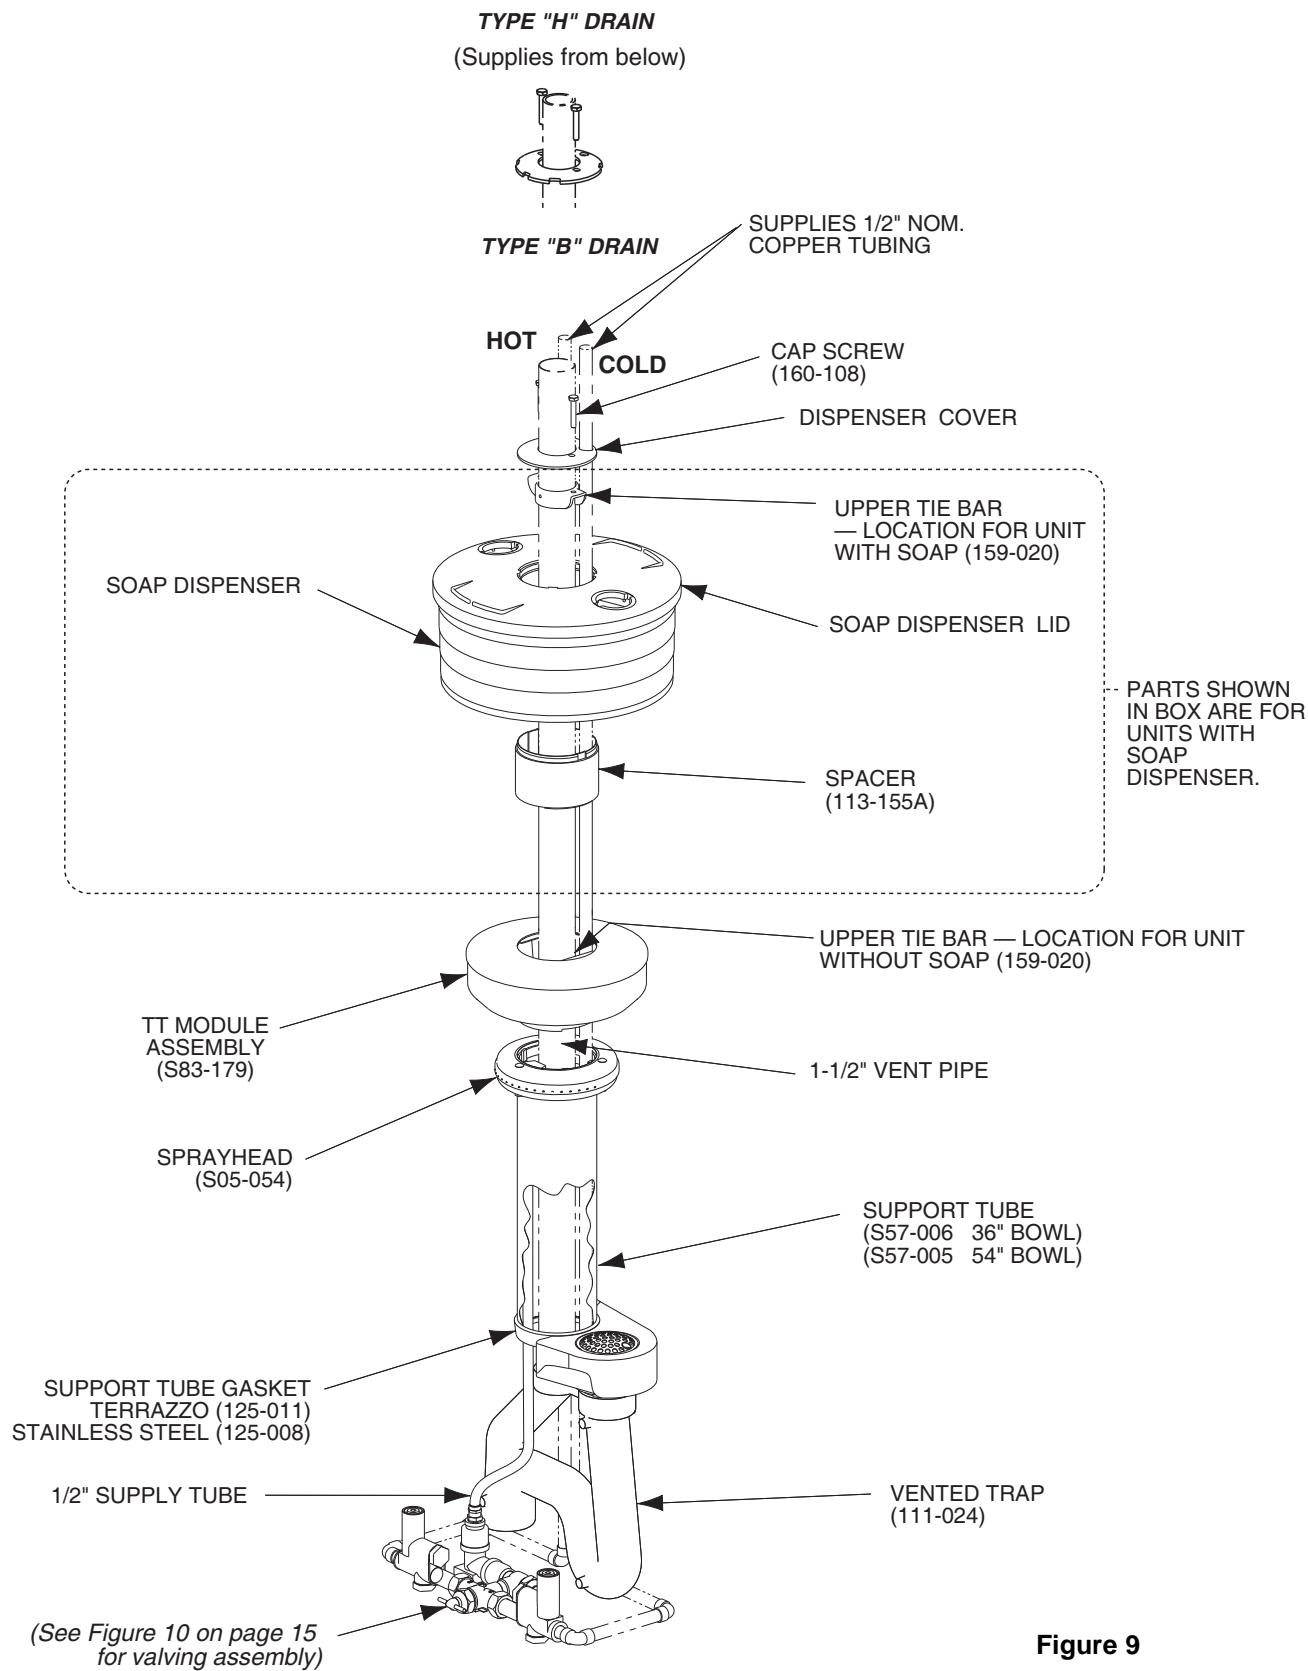

Figure 9
1. Install hemmed end (not sharp end) of support tube with gasket onto bowl as shown in Figure 9 on page 14.
3. Place sprayhead with 1/2" tubing onto support tube as shown in Figure 9. Run tubing down through support tube.
- 9a. **FOR UNITS WITH SOAP OPTION:** Place the spacer, soap dispenser and cover in position on top of Touch Time module (see Figure 9). Slide soap tie bar over 1-1/2" vent pipe 1/2" below top of soap dispenser cover and secure with the two cap screws included with the tie bar. Slide the dispenser cover over 1-1/2" vent pipe and secure with the two cap screws included with the tie bar.